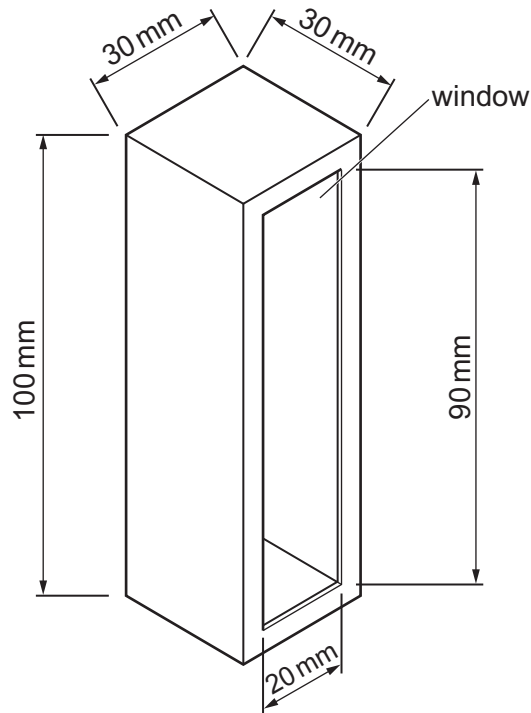

Fig. 2.4
- (c) The book light is to be packaged in a cuboid-shaped cardboard box shown in Fig. 2.4 with one rectangular window cut out.